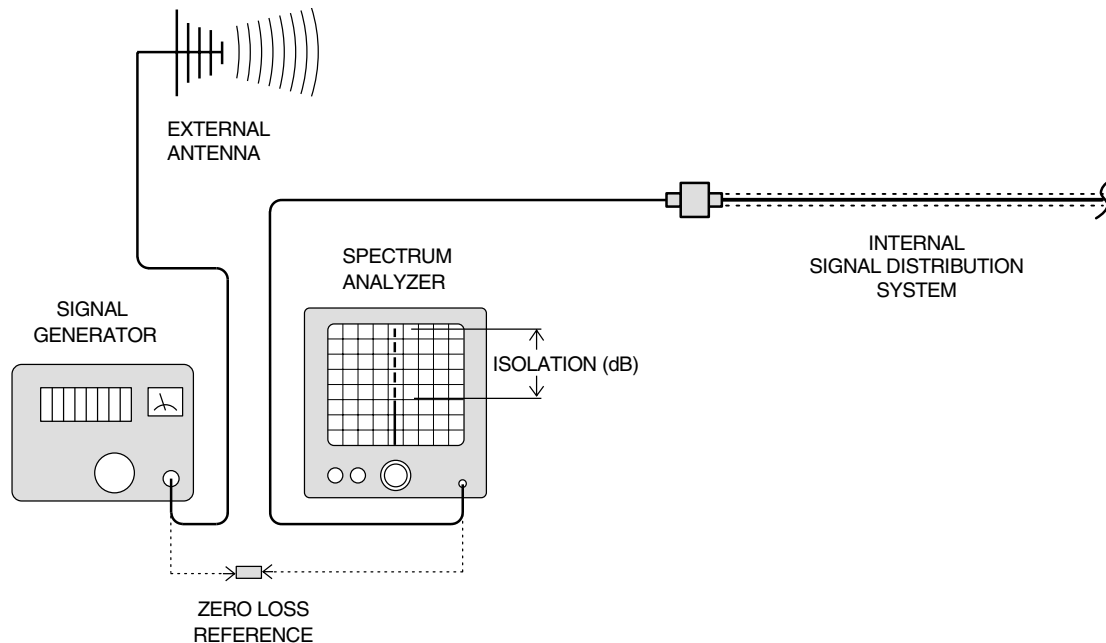

Figure 4: Typical test equipment setup for measuring antenna isolation.
- 3) Connect the test leads of the signal generator and the spectrum analyzer together using a female barrel connector, see **Figure 4**. Observe the signal on the analyzer and adjust the input attenuator of the analyzer for a signal level that just reaches the 0 dBm level at the top of the graticule.
- 4) Referring to figure 4, connect the generator test lead to one side of the signal distribution system (external antenna) and the spectrum analyzer lead to the other (internal distribution system) and observe the signal level. The difference between this observed level and 0 dBm is the isolation between the sections. If the signal is too weak to observe, the spectrum analyzer's bandwidth may have to be narrowed and its input attenuation reduced. Record the isolation value. **The isolation value measured should exceed the amplifier gain figure by at least 15 dB.**